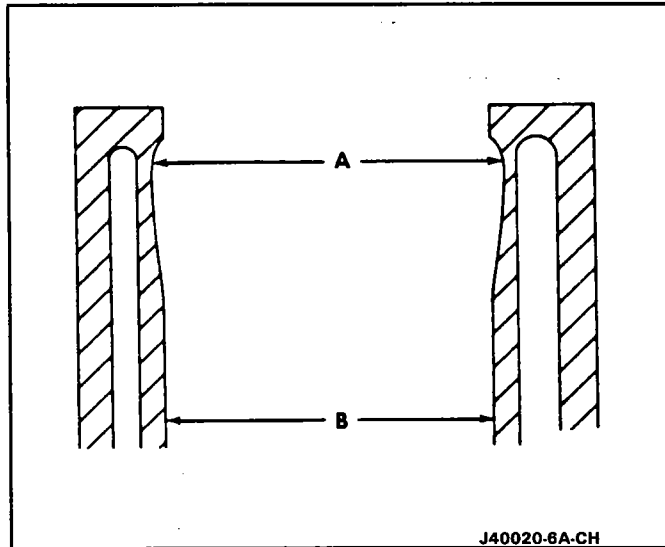

Figure 55 Cylinder Wear Pattern
- b. Measure the cylinder bore diameter. When measuring piston for size or taper, measurement must be made as shown in Figure 55.